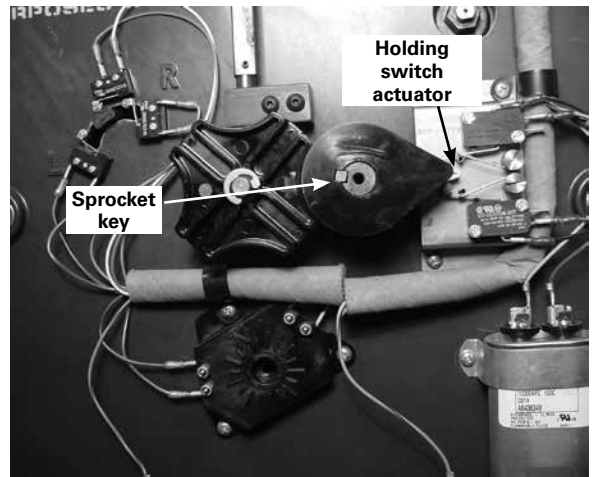

Figure 6. PI Cam assembly
9. Rotate the PI Cam point so it is pointing at the actuator located on the holding switch. See Figure 6.